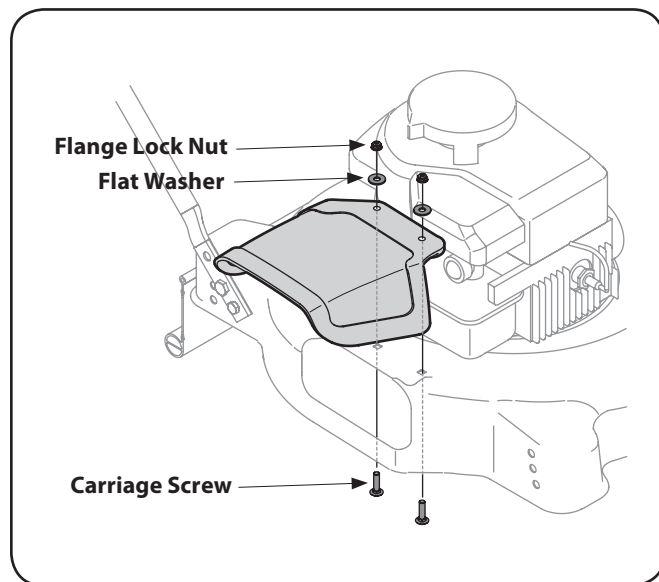

Figure 3-1
2. Insert carriage screws up through the underside of the deck and through the chute deflector. See Fig. 3-1.